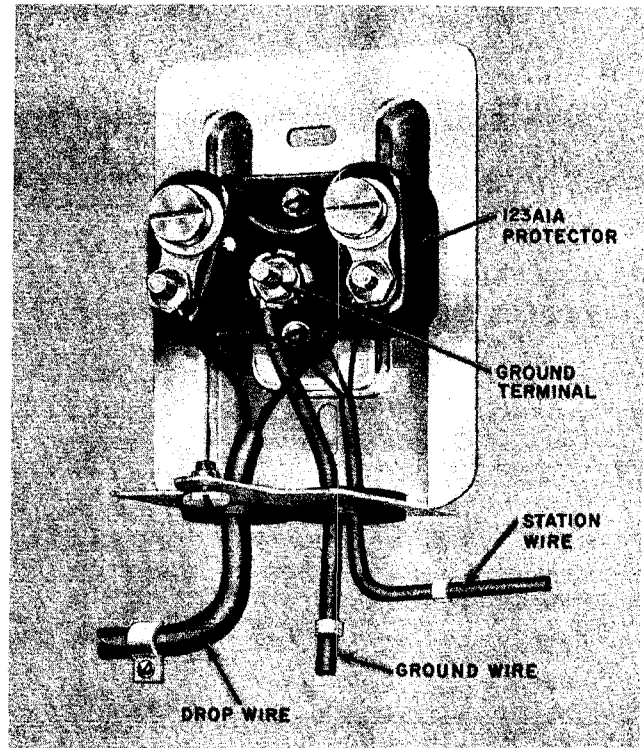

Fig. 11—305A2 Protector Mounting
4.12 The 305A2 Protector Mounting is used to house the 123A1A or 128A1A-2 Protector at outside installations. Two screws are furnished with the protector mounting for fastening the protector to the back of the mounting. Two holes are provided in the back for attaching the protector mounting to its mounting surface. Fig. 11 illustrates a 123A1A Protector installed in a 305A2 Protector Mounting.